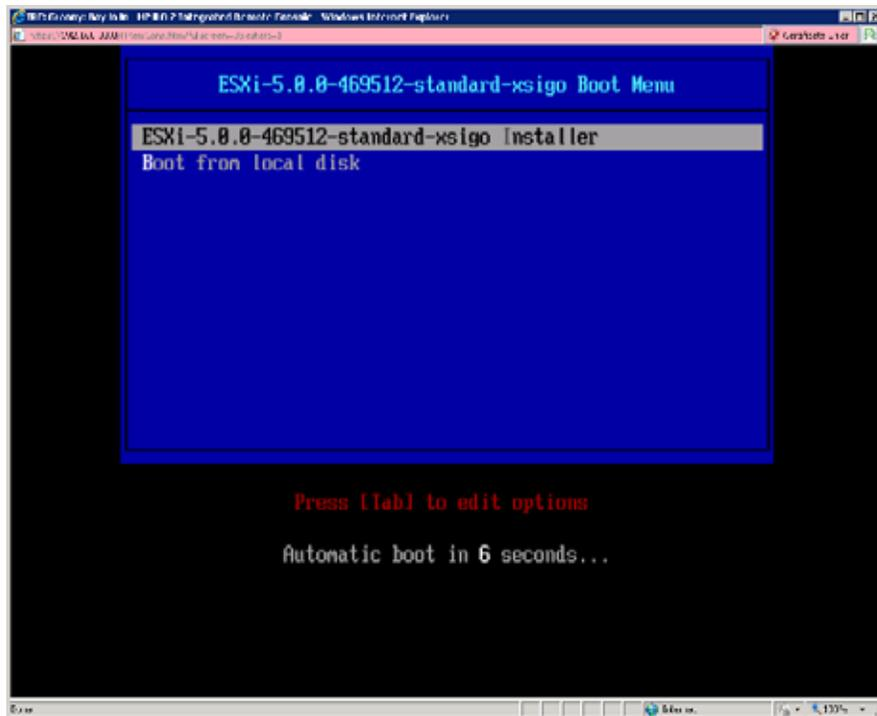

Figure 2 Selecting the Xsigo ESXi 5.0.0 Installer
- Step 1 From the ESXi 5.0 server, locate and mount the modified ISO (ESXi-5.0.0-Standard-Xsigo Installer) as shown in Figure 2 on page 76.